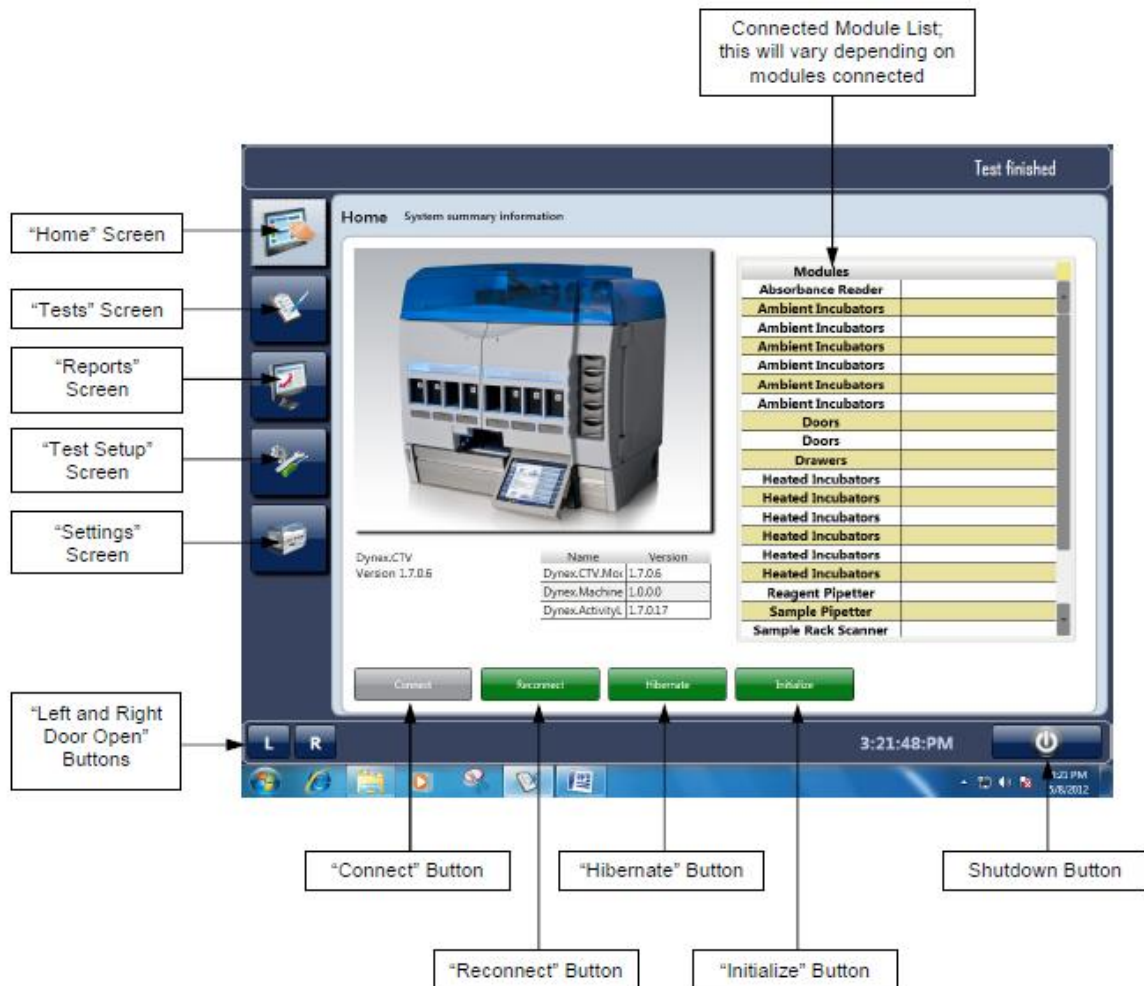

Figure 5-2: CTV Home Screen
7. Enter the Service password to present the Home screen (Figure 5-2). The self tests will be performed.